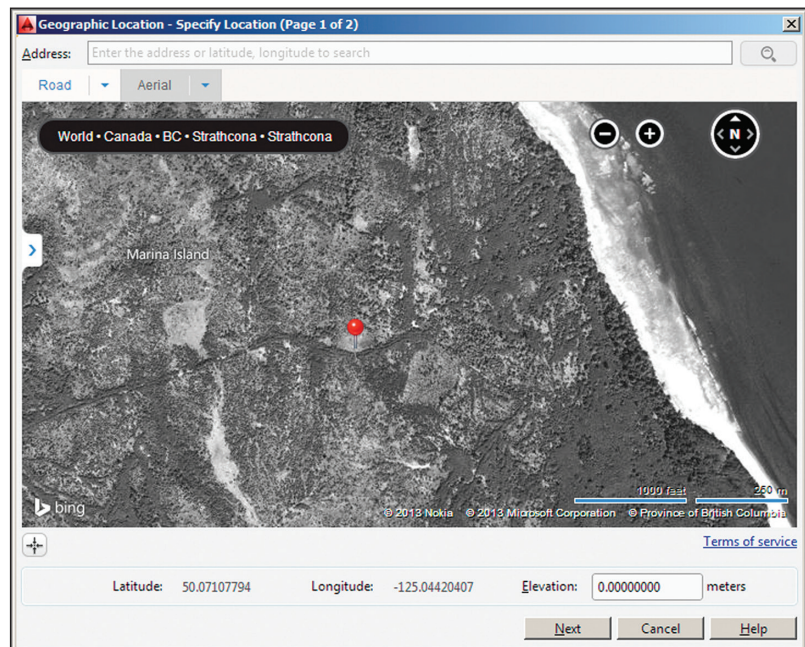

FIGURE 18.13 Specifying the geographic location of the site
3. Expand the Sun & Location panel, open the Set Location menu, and select From Map. Choose Yes when asked if you want to use online map data. In the Geographic Location dialog box that appears, zoom into a hypothetical site anywhere in the world you would like. Right-click the map and choose Drop Marker Here. A red pin appears on the map at that location (see Figure 18.13).